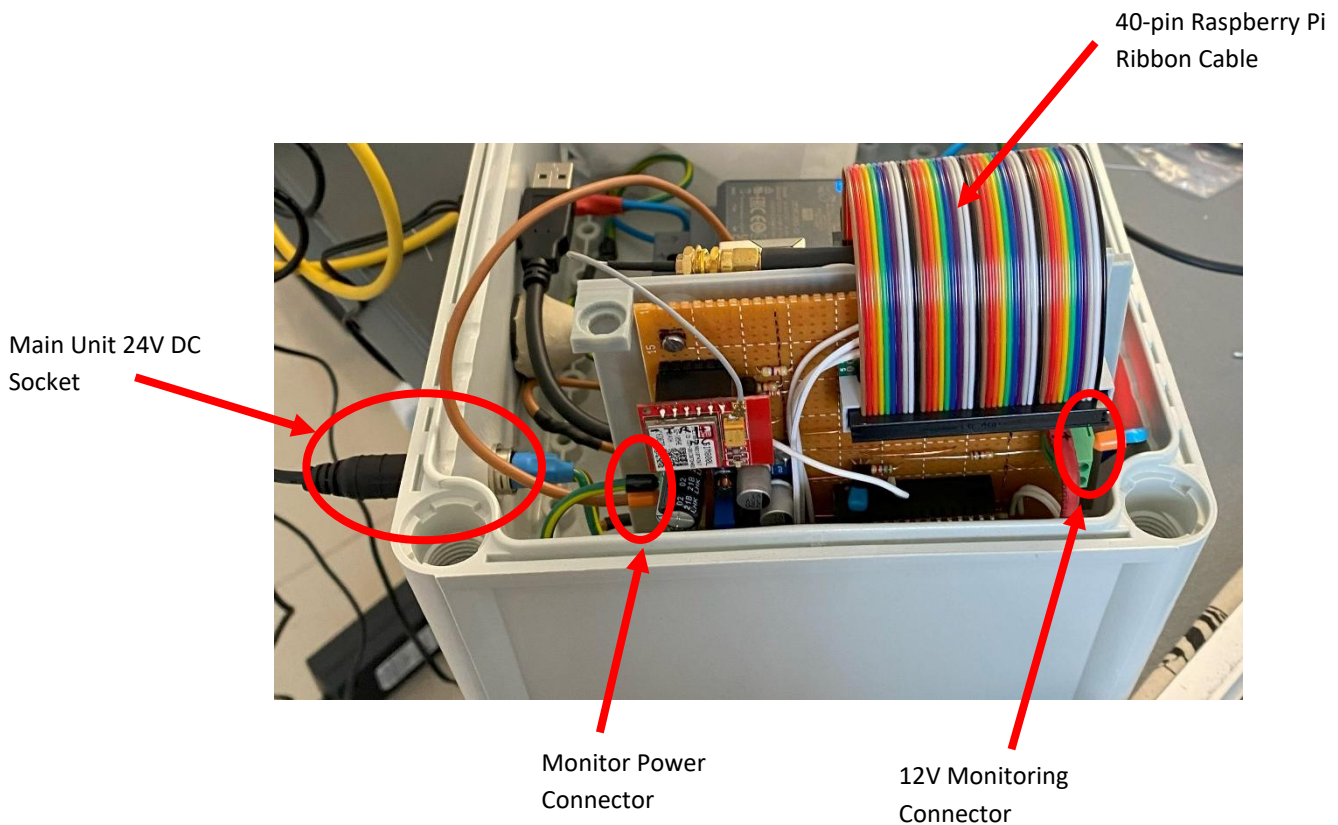

Figure 45 - Monitor mounted inside Main Unit
- The Monitor mounting plate clips on to the DIN rail, with the power connector facing the front of the Main Unit, and the 12V monitoring connector facing towards the back. See FIGURE 45 - MONITOR MOUNTED INSIDE MAIN UNIT